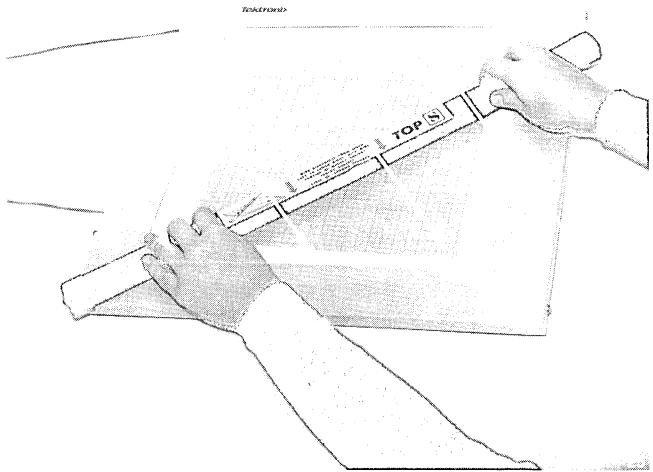

Figure 3-12. Restoring the Tablet Bias.
3. Pull the magnet across the tablet from the upper-left corner towards the lower-right corner in a single, smooth motion (Figure 3-12). Wipe the entire surface in about two or three seconds.